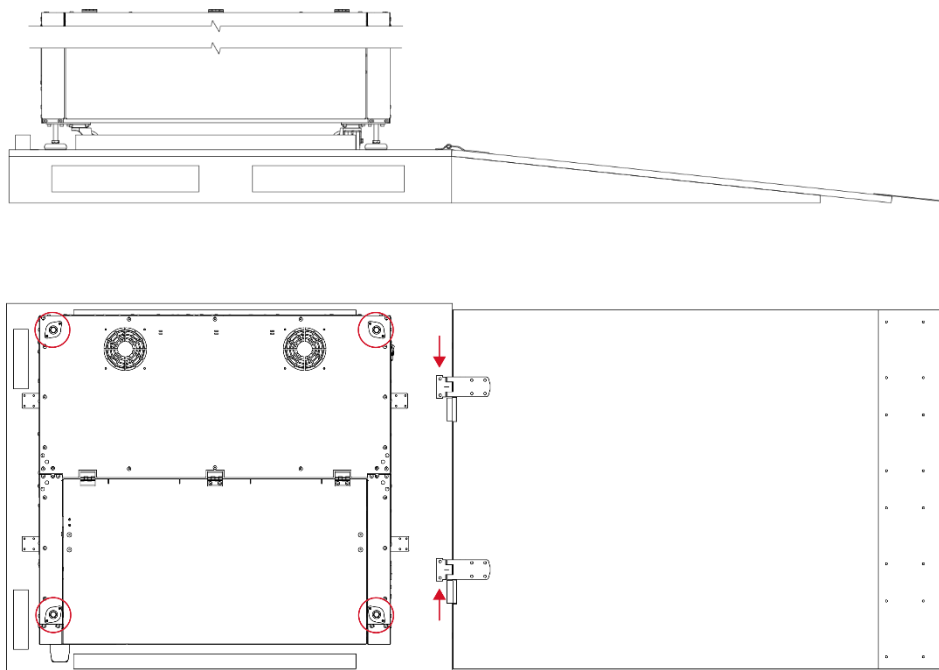

Fig. 9 Pallet fitted ramp
7. Attach the ramp to the pallet by inserting two pins in the positions shown in Fig. 9 and lock them with the cotter pin attached to the pins.
11. Take 4 plugs with screws out of the accessories box and mount them on the top of the device in the places where the OSB board was screwed in (Fig. 9, red circles).